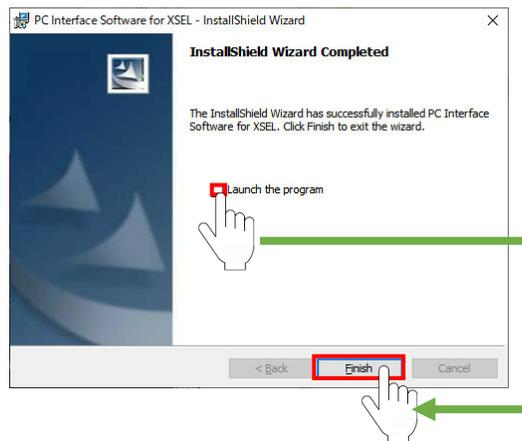

Fig. 1.13 Installation Complete
- 10) When installation is complete, the screen in Fig. 1.13 will be displayed. Uncheck "Launch the program" and click "Finish."